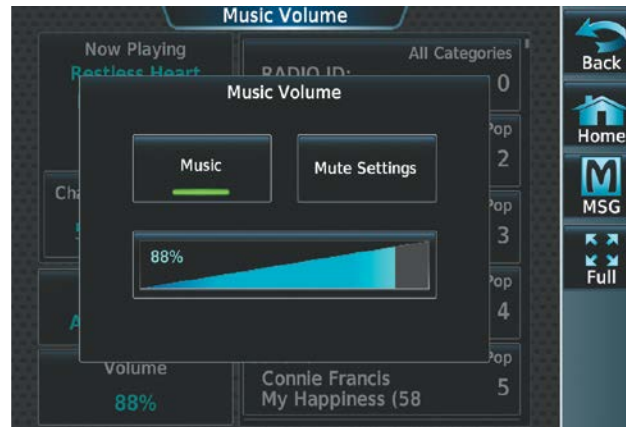

Figure 8-97 Adjusting Volume
- 2) The volume adjustment slider is displayed as shown in Figure 8-97.